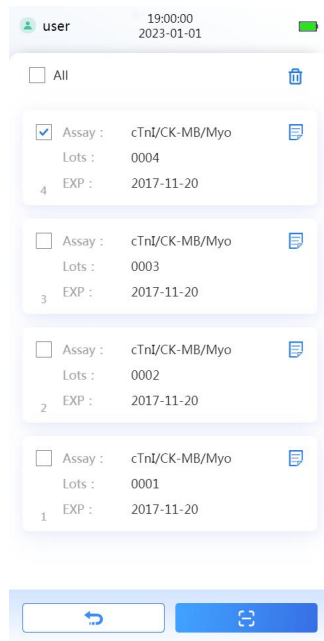

Figure 9 Assay List Interface
- After clicking the main interface button , you will enter the assays interface (Figure 9 below).